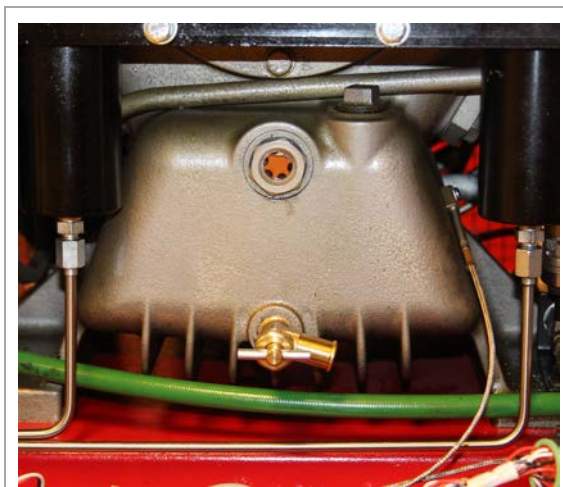

Figure 4.3-17: Oil Level Sight Glass
23. Verify the oil level in the sight glass. See Figure 4.3-17.